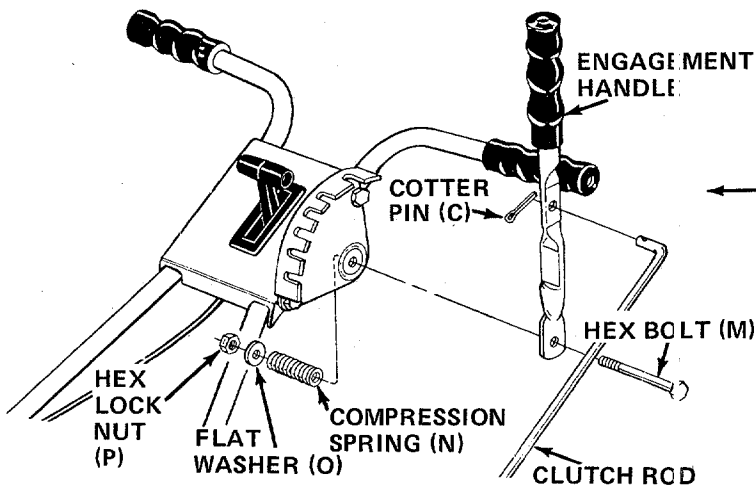

FIGURE 9
13. Place hex bolt (M) through bottom hole in engagement handle as shown in figure 9, then through hole in adjustment bracket.
14. Secure hex bolt with compression spring (N), flat washer (O) and hex lock nut (P) on the inside of of the adjustment bracket.
15. Secure bent end of clutch rod half to engagement handle with cotter pin (C). See figure 9.